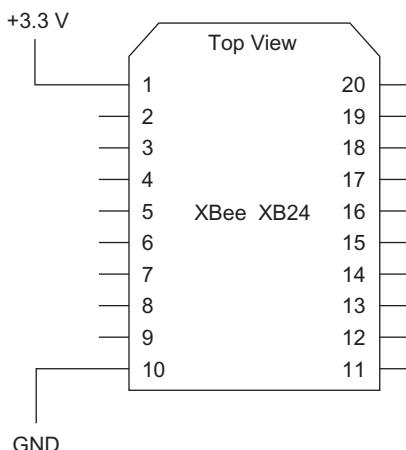

FIGURE 11.1 In this experiment, the XMTR module in the solderless breadboard needs only power and ground connections.
Step 11. The schematic diagram in Figure 11.1 shows the only two connections—+3.3-volt power and ground—needed for the XMTR module in your breadboard. If you have other connections for the XMTR module, please disconnect them now.